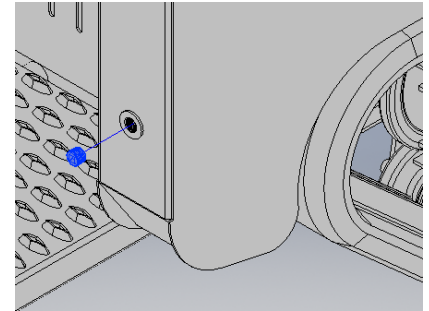

Fig 24
3. Remove the drain plug from the bottom of the hydraulic tank and allow the fluid to completely drain out. (Fig 24)